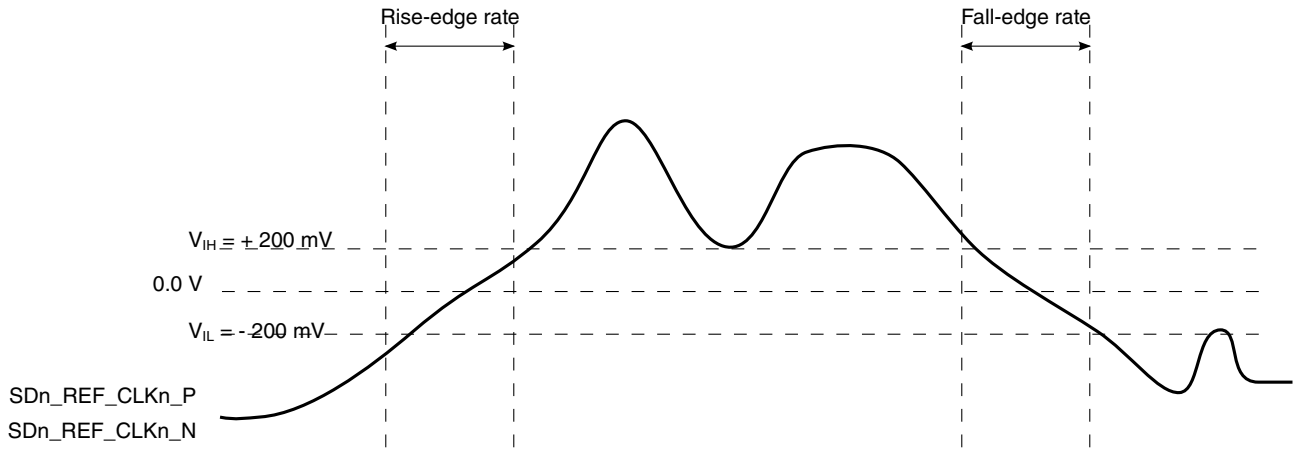

Figure 34. Differential measurement points for rise and fall time
- Measured from -200 mV to +200 mV on the differential waveform (derived from SD_n_REF_CLK_n_P minus SD_n_REF_CLK_n_N). The signal must be monotonic through the measurement region for rise and fall time. The 400 mV measurement window is centered on the differential zero crossing. See Figure 34.